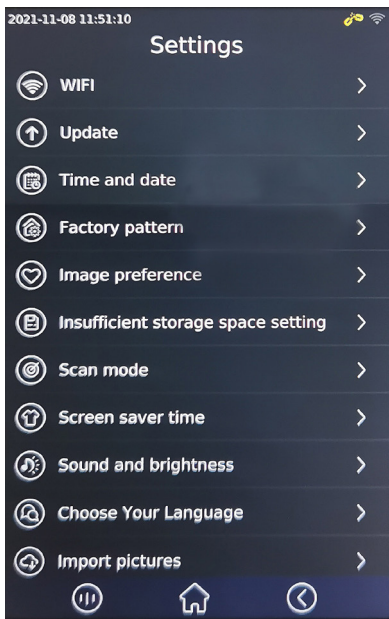

Figure 12
- b) Click“WIFI”, as shown in Figure 12